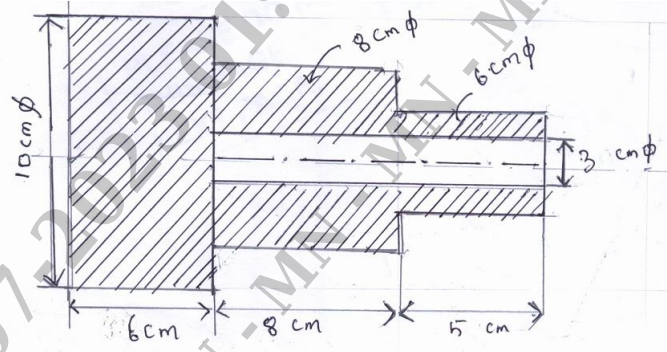

Fig. Q9 (c)
- c. A mild steel component as shown in a Fig. Q9 (c) below is to be manufactured. Find the total cost of material the density of material is 7.81 gm/cm^3 . The cost of material is Rs.60/kg. All dimensions are in cm.